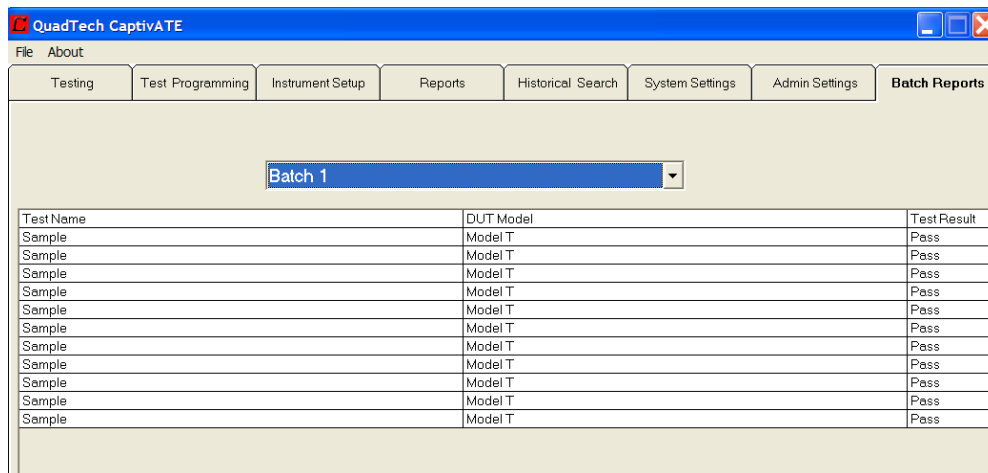

Figure 88 List of All Batch Reports
1. Click on the drop down arrow and click a batch report. The selected batch report is arrayed across the grid on the *Batch Reports* screen as shown in Figure 88: